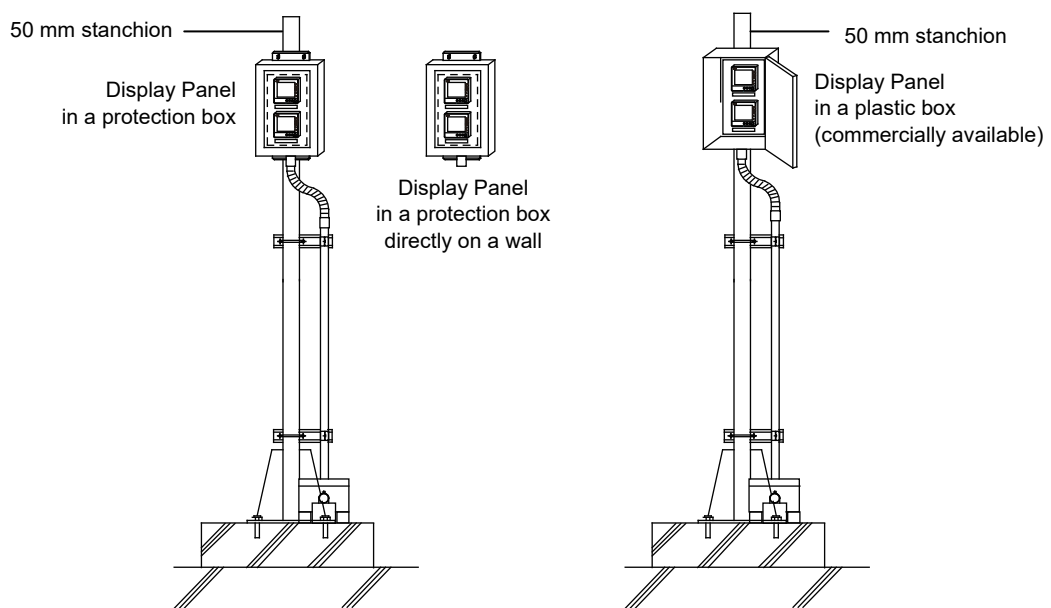

Figure 13. Display Panel installed outdoors (in a rainproof box)
6) Display Panel is generally installed on a visible position such as on a wall in a machine room or on a control panel cabinet. However, it may possibly be installed outdoors or in a ceiling. In such a case, install the Display Panel as shown in Figs. 13 and 14. Consider the conditions and requirements of your Display Panel installation and decide the location.